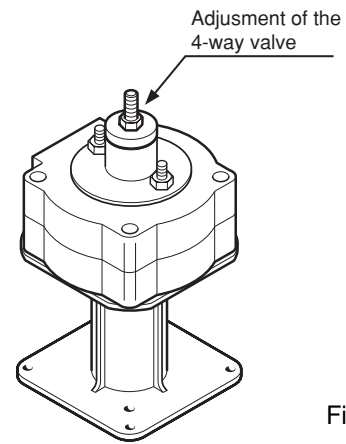

Fig. 13
- Adjust, if needed, the vacuum-pressure changing device (4-way valve) and keep it well greased. By operating on the upper nut (manual type) or on the threaded washer (pneumatic type) the sizing of the elements will be avoided. Do not overdo it in order to avoid vacuum-degree losses (see Fig. 13).